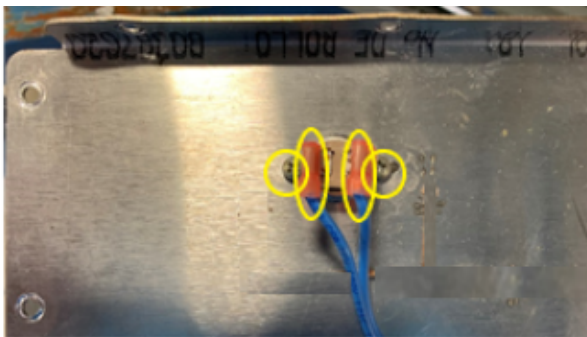

Fig. 18 – Wire Connections and Screws to Burner Thermal Switch
6. Unplug wires from Burner Thermal Switch and remove 2 phillips head screws shown in Fig. 18. Install Burner Thermal Switch provided in kit on top cover and reconnect wires.